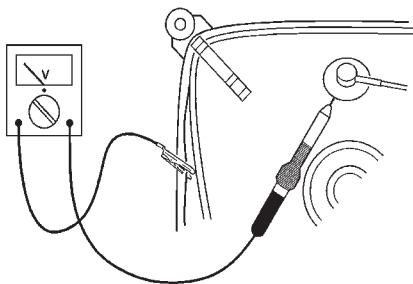

FIG. 9
1. In order to prevent damage to IC's and transistors any flash-over of the EHT should be avoided. To prevent damage to the picture tube the method, indicated in Fig. 9, has to be applied to discharge the picture tube. Make use of an EHT probe and a universal meter is 0V (after approx 30s).